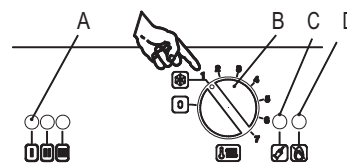

Figure 15.3
- Turn the function selector B as in Fig. 15.3. The appliance operation light A will flash every 2 seconds.
To reset the boiler turn the knob B (Figure 15.3) on the 0 position and then press and release the boiler reset button C (Fig. 15.3).
With the burner on high flame close the gas cock. After three ignition attempts (within about three minutes), the lock-out signal lamp must appear (D on Figure 15.3). To reset the boiler turn the knob B (figure 15.3) on the 0 position and then press and release the boiler reset button (C on Figure 15.3).